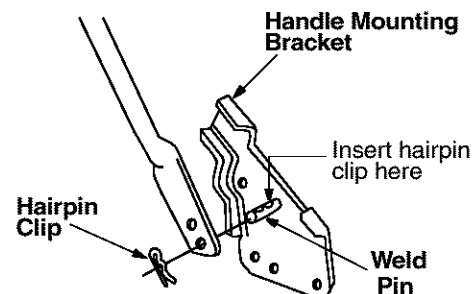

Figure 3
- Using a pair of pliers, squeeze one leg of the lower handle against the handle mounting bracket. Remove the hairpin clips from the outer hole in the weld pins on the handle mounting brackets. Insert the hairpin clip into the inner hole on the weld pin. See Figure 3. Repeat on other side.